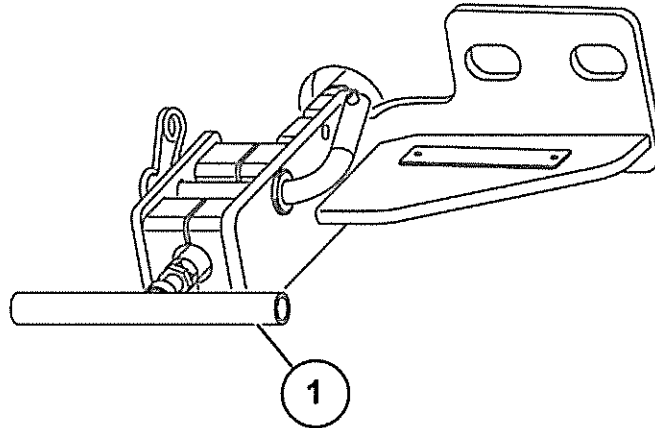

Fig 3 Clutch control
5 Refer to Fig 3. The clutch lever (1) is used for disengaging the clutch which interrupts the drive to the winch.